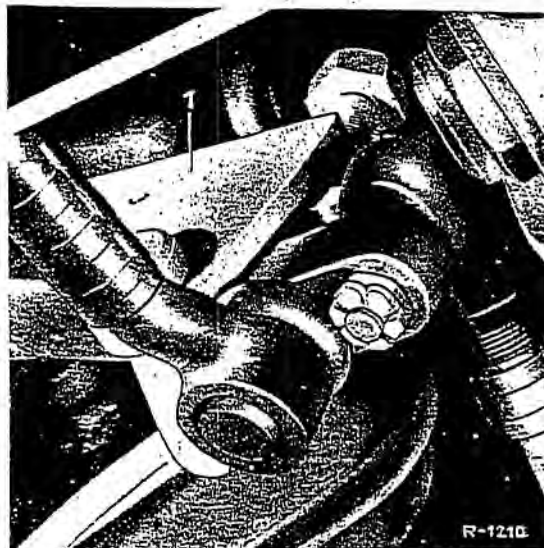

Fig. 46-25/3
4. Unscrew the hexagon screw (79) from the lower flange of the steering coupling (Fig. 46-25/2).